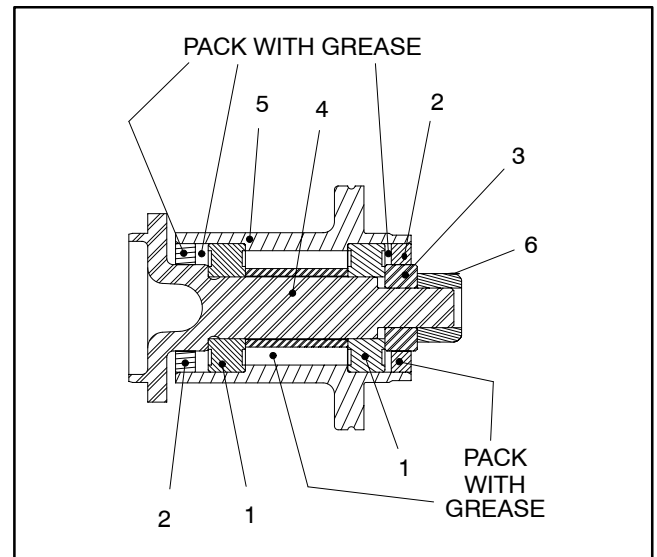

Figure 28
1. Assemble hub/spindle assembly (Fig. 28):
2. Position traction drums to hub/spindle assembly. Secure each traction drum to hub/spindle with four (4) cap screws and lock washers. Torque cap screws 100 in-lb (11.3 N-m).